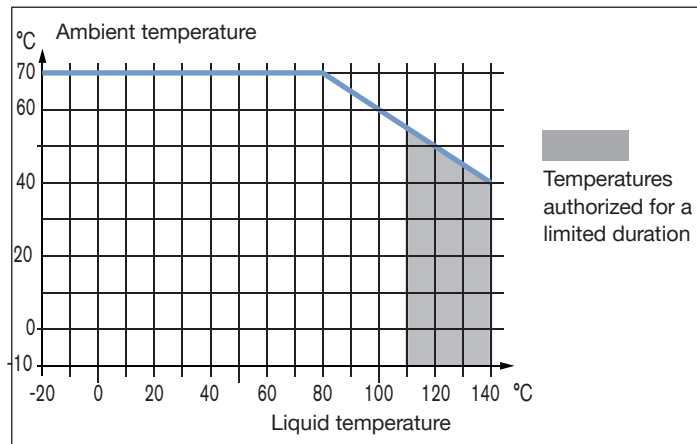

Fig. 7: Dependency between the liquid temperature and the ambient temperature
**Liquid temperature** -20 °C...+110 °C, with clamp process connections. Up to 140 °C for maximum 60 minutes for a sterilisation process. Maximum temperature gradient: 10 °C/s. The maximum liquid temperature can be restricted by the ambient operating temperature. Depending on the version of your device, see Fig. 7.